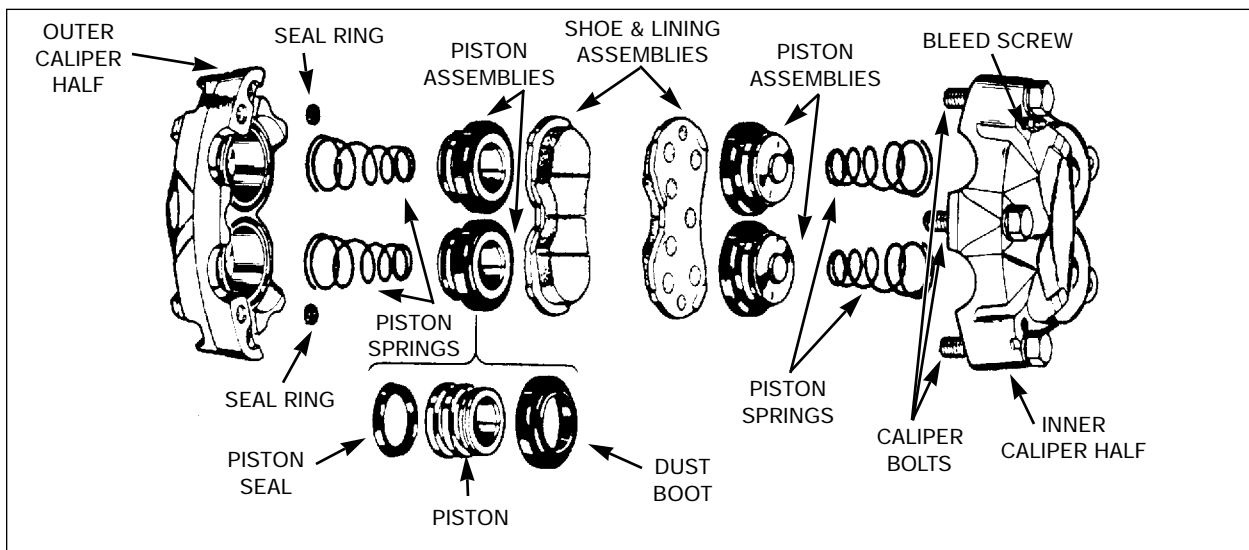

Fig. 4 - Two-piece disc brake caliper, using four pistons. (Bendix)
7. A hydraulic line from the master cylinder leads to one side of the caliper. The other side will receive pressure through a crossover (external) line or bypassing the fluid internally through the casting (see Fig. 4 & 5).